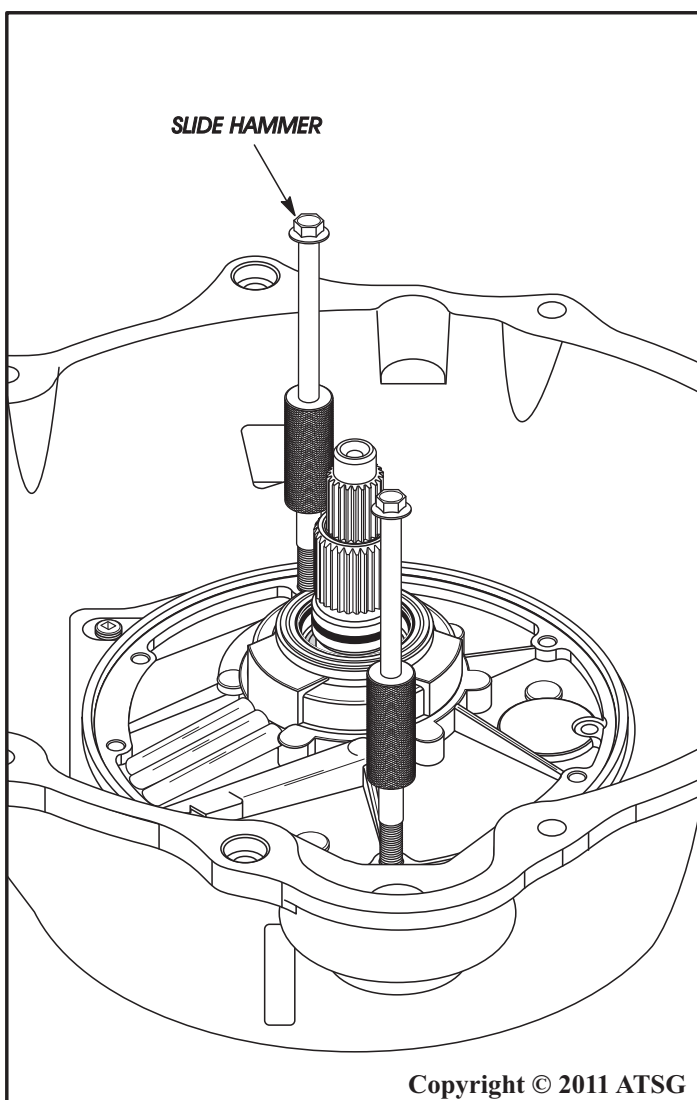

Figure 76
36. Install slide hammers into oil pump in positions shown in Figure 76.